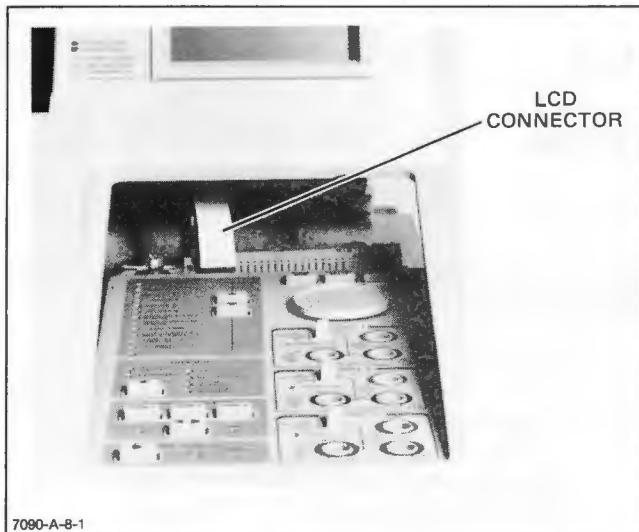

Figure 2-2. LCD Connector
- Gently lift the rear of the top case until the liquid crystal display (LCD) connector is accessible. See Figure 2-2.